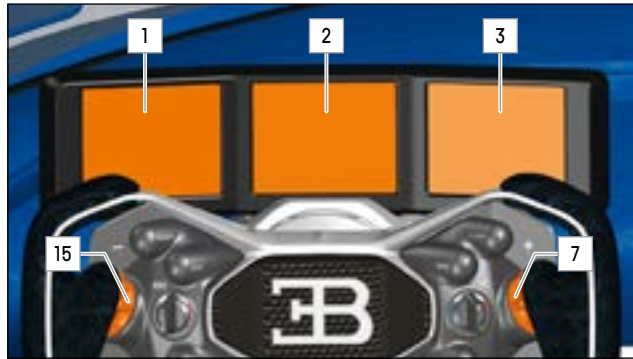

FIG.7 DISPLAYS AND STEERING WHEEL
Scroll through the display pages via rotary collar 7 and 15 (» Fig.7) on the steering wheel.
- Use the rotary collar 7 (» Fig.7) to scroll through the right pages.
- Use the rotary collar 15 (» Fig.7) to scroll through the left pages.
► Scroll through the display pages via rotary collar 7 or 15 (» Fig.7) on steering wheel.
► Scroll through the display pages via rotary collar 1 or 2 (» Fig.7) on steering wheel.